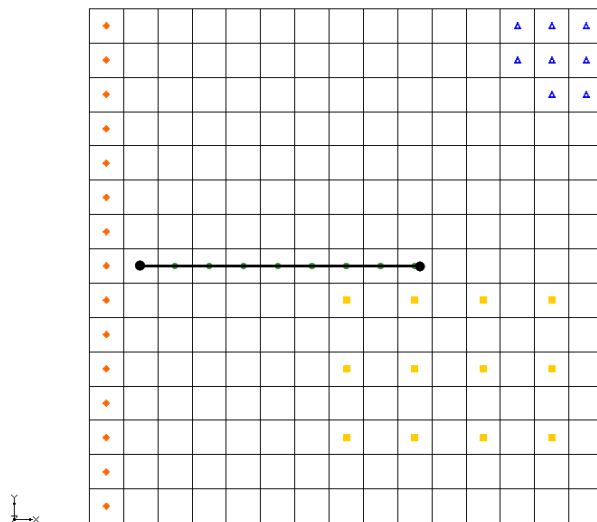

Figure 3. Creating an Arc for the Drains.
- Create an arc for the drains as shown in Figure 3. Make sure the left end of the arc does not enter the specified head cell on the left side of the model.